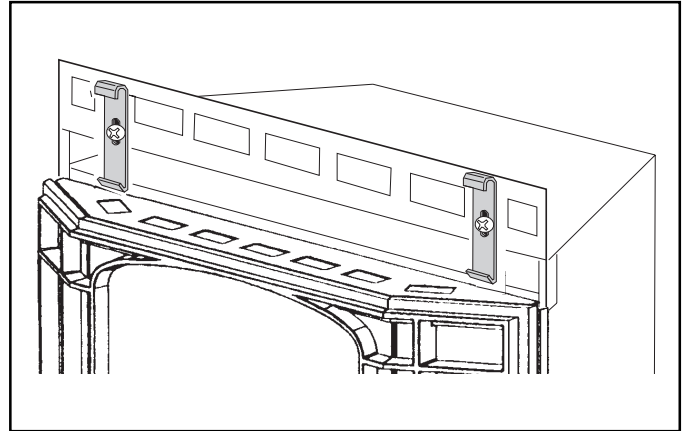

Fig. 21 Hang the Window Grille or the Steel Frame onto the lower tabs of the Hanging Brackets.
- 3) Install the bay window by hanging it onto the lower tabs of the hanging brackets, as per Fig. 21.
- 4) Install the bay window by hanging it onto the lower tabs of the hanging brackets, as per Fig. 21.